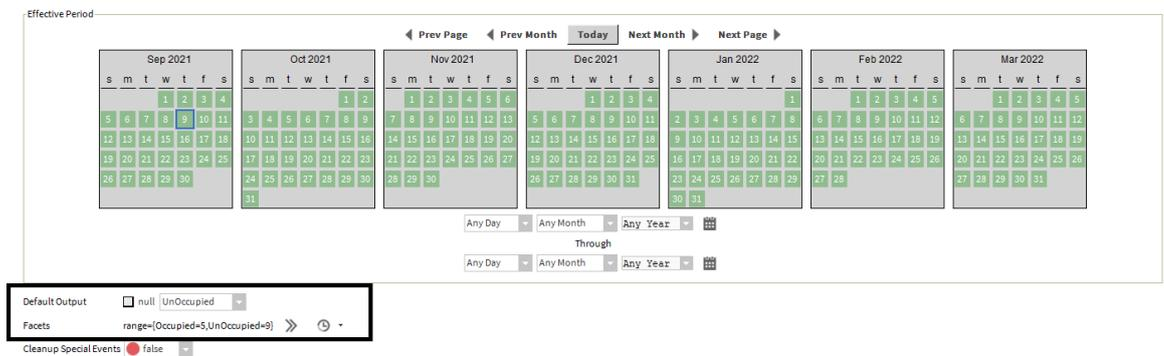

Figure 9 – EXAMPLE EVENT SCHEDULE.
7. Open Schedule and click to the Properties Tab (see Figure 9). Click on the >> Chevron beside the Facets / range. On the new window click on the 3 dots ... and on the new popup